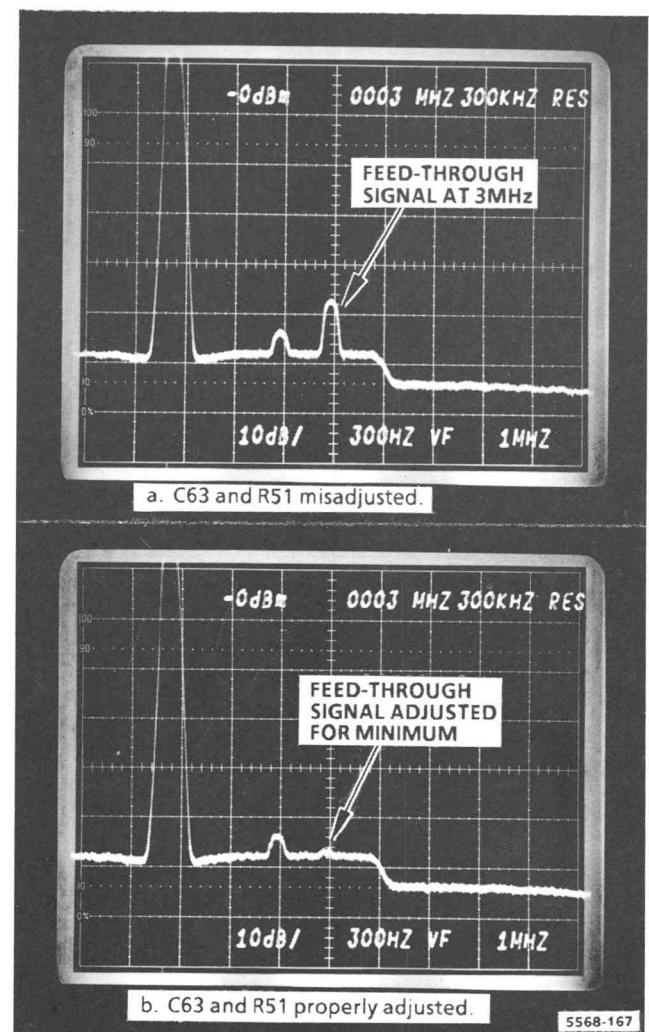

Fig. 4-49. Typical displays when adjusting IF mixer balance.
- c. **ADJUST** C63 and R51 for minimum intermediate frequency feed-through at  $\sim 3$  MHz. If no signal is present at  $\sim 3$  MHz, increase the leveled sine wave generator output level until a signal is visible, and then adjust C63 and R51. See Fig. 4-49.